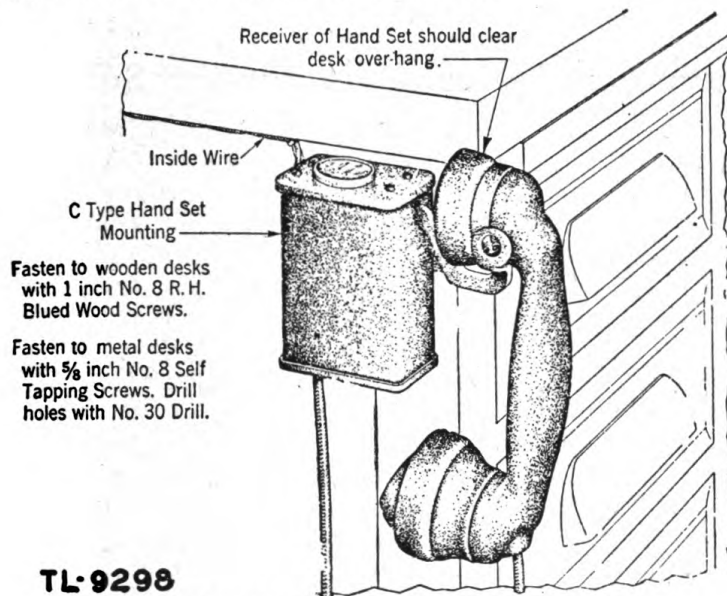

Figure 98. Hanging type desk set mounted on desk.
e. **LOCATING AND MOUNTING HANGING TYPE DESK SETS.** Locate hanging type desk sets in accordance with paragraph 24a. Mount a hanging type desk set as shown in figure 98.